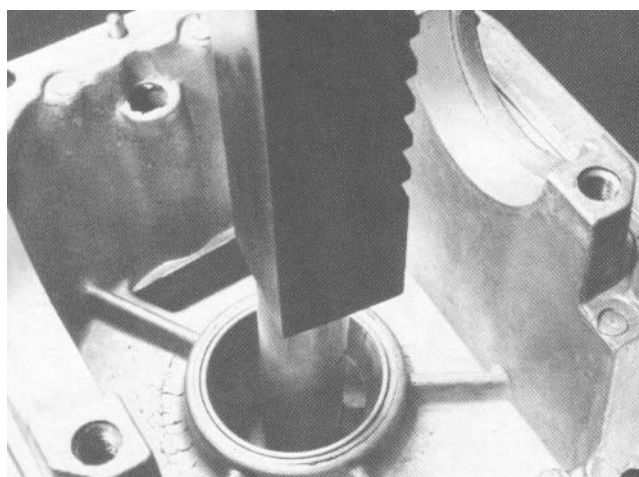

Figure 36
16. To remove the outer pinion bearing cup, position the housing in a press. Place a press plate of the proper size against the cup. Press the cup out of the housing (Fig. 36).